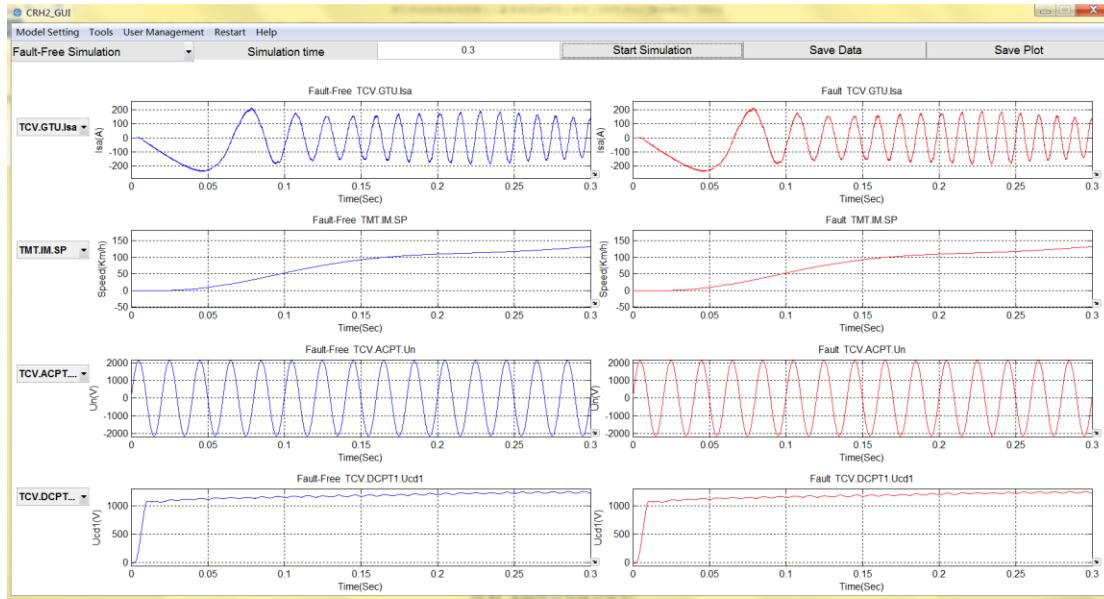

Fig. 47 Waveforms of fault-free simulation
④Output simulation waveform, the left column are the normal waveforms, the right column are the fault waveforms. No fault simulation, the left and right two waveforms are exactly the same, except for the color, as shown in Fig. 47.